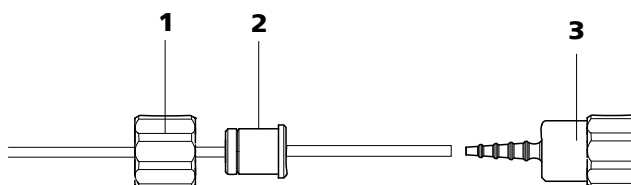

Figure 31 Install pump tubing connection without filter
- **Case B:** a 6.2744.160 pump tubing connection **without filter** (see Figure 31, page 57).